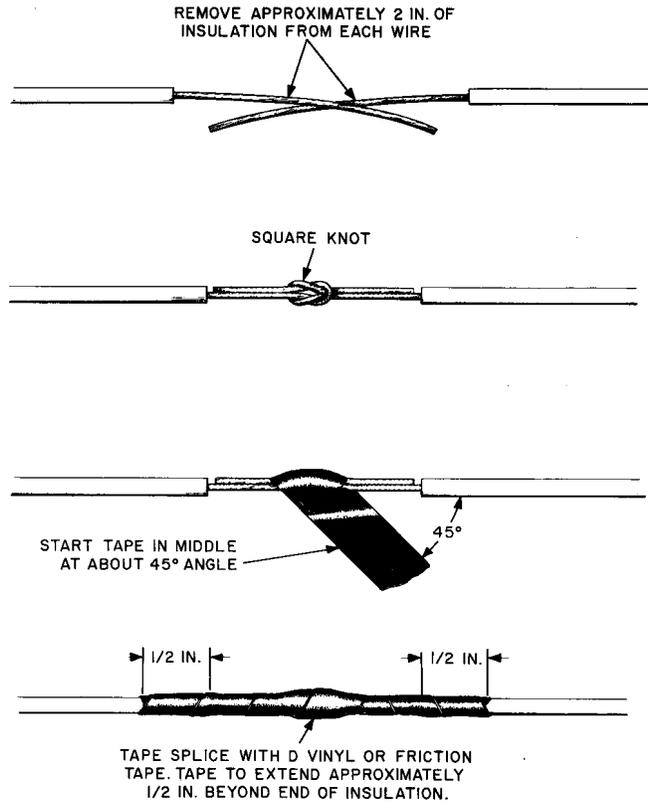

Fig. 5—Repairing Broken Cord
- (1) A maximum of three splices permitted.
- (2) No splice permitted if the open is within four inches of the indicator assembly.
(3) The overall length of the cord between the ground clip and indicator assembly shall not be less than 7 feet, 6 inches.
4.03 Open cords are spliced as follows (Fig. 5):